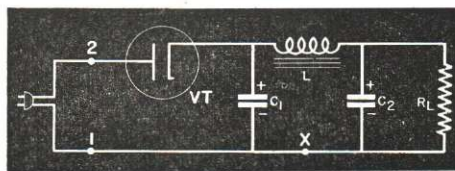

FIG. 1. This universal power supply uses no power transformer.
A simple universal power supply is shown in Fig. 1. As you see, no power transformer is used—the power line connects directly to the circuit. The half-wave rectifier tube *VT* is followed by a standard condenser input filter which connects to the load.
► As in the standard power supply, the choke coil in Fig. 1 can be placed at point X (between the negative leads of the filter condensers), and the voltage drop across it can then be used to furnish bias voltages.
ply, in order for the speaker to operate. If the coil has a low resistance (500 ohms or less), we can use it in place of the filter choke in Fig. 1 and thus make the coil do double duty.
Regulation. The filter systems of Figs. 1, 2, 3 and 4 are condenser-input filters. As you know, their regulation